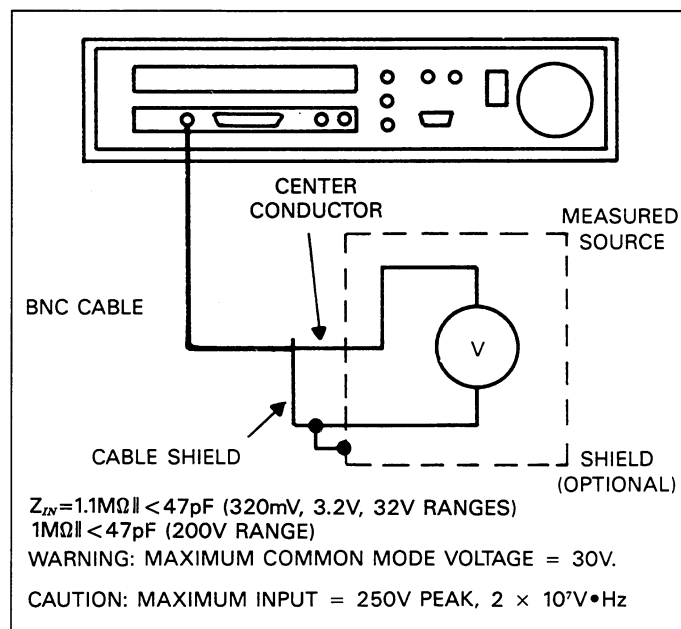

Figure 2-8. Basic Input Connections
6. Connect the other end of the cable to the voltage source to be measured, as shown in Figure 2-8. Remember that